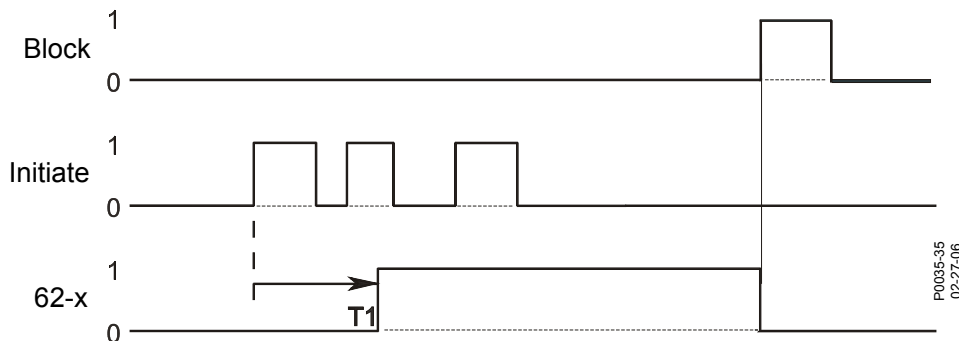

Figure 69-8. Latched Mode
Step 9: Use the Metering Explorer in BESTCOMSPlus to open the Reports, Sequence of Events screen. Verify that the 62-1 timer output remained false after the first 43-1 switch action (ON), the 62-1 timer output went true 30 seconds after 43-1 switch action (ON), and 62-1 timer output returned to a false state with the 43-2 switch action (ON). Figure 69-8 illustrates the timing relationship of the 43-1/43-2 switches and 62-1 timer.